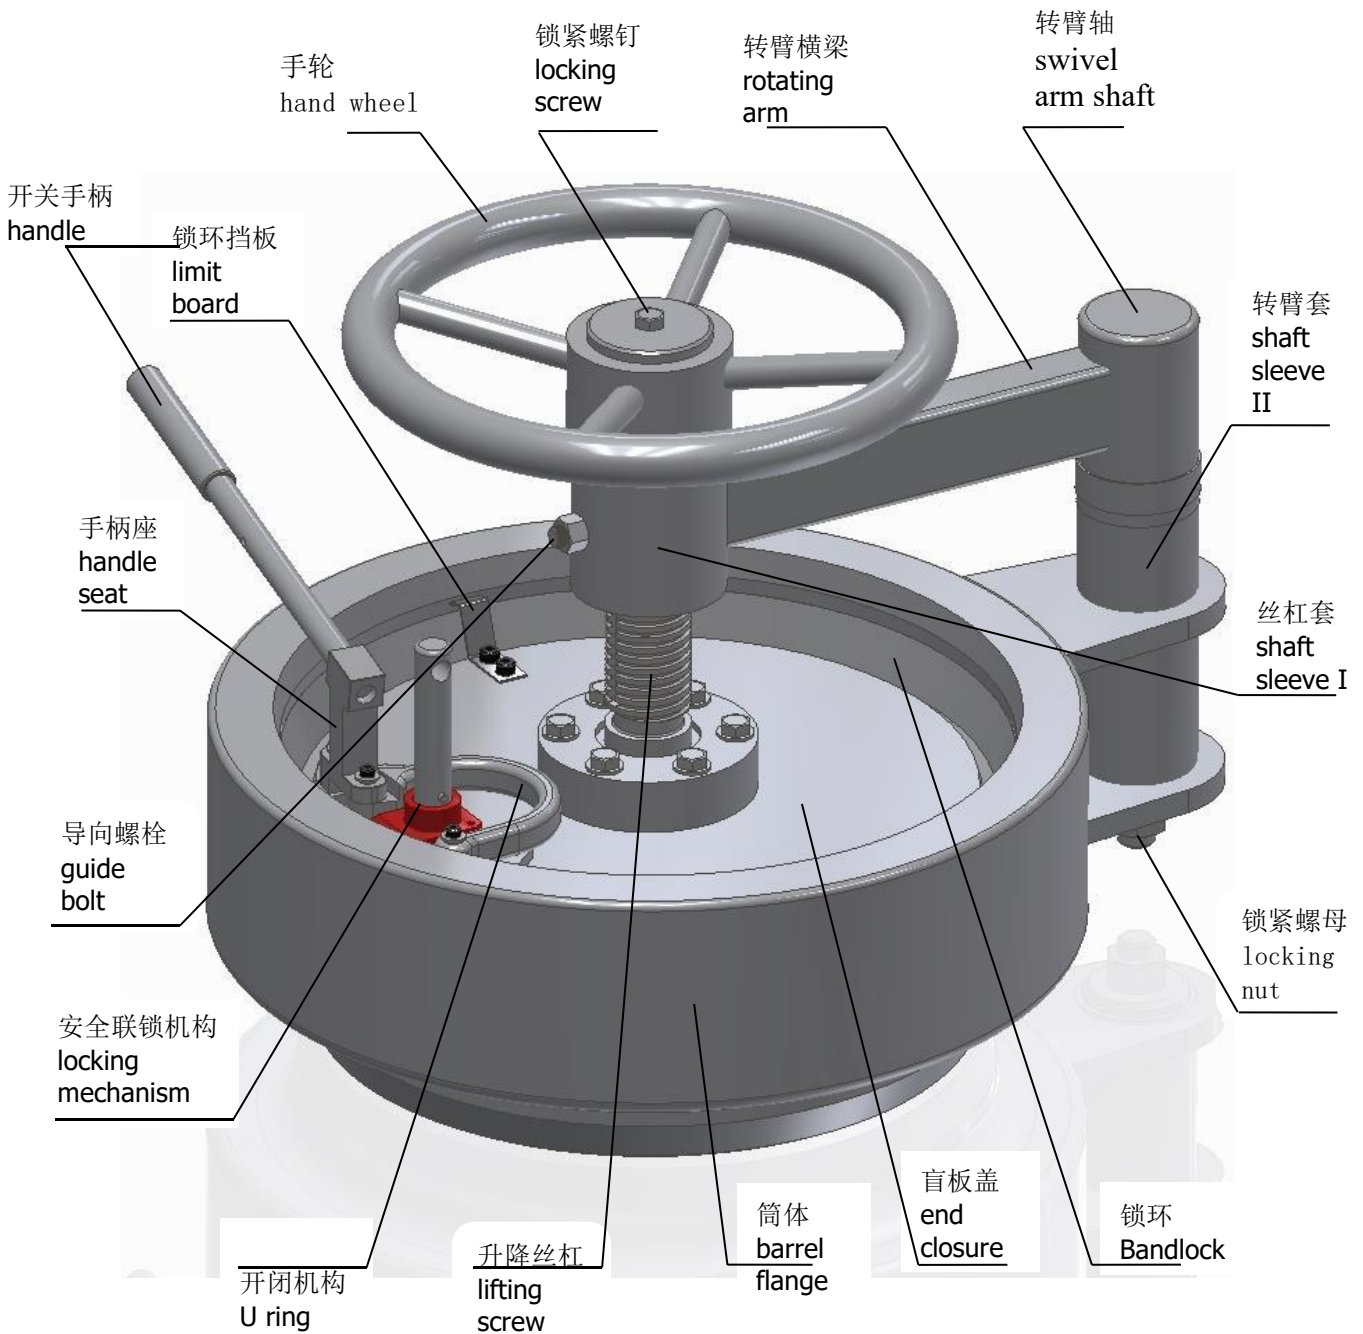

图 1 (picture 1)
2)... 按图 1 所示，a.卸下手轮中心锁紧螺钉 b.卸下手轮 c.卸下载臂轴下端锁紧螺母 d.拧松导向螺栓；
2) As shown in Figure 1, a. Remove the handwheel center locking screw b. Remove the handwheel c. Remove the locking nut on the lower end of the swivel arm shaft d. Loosen the guide bolt;